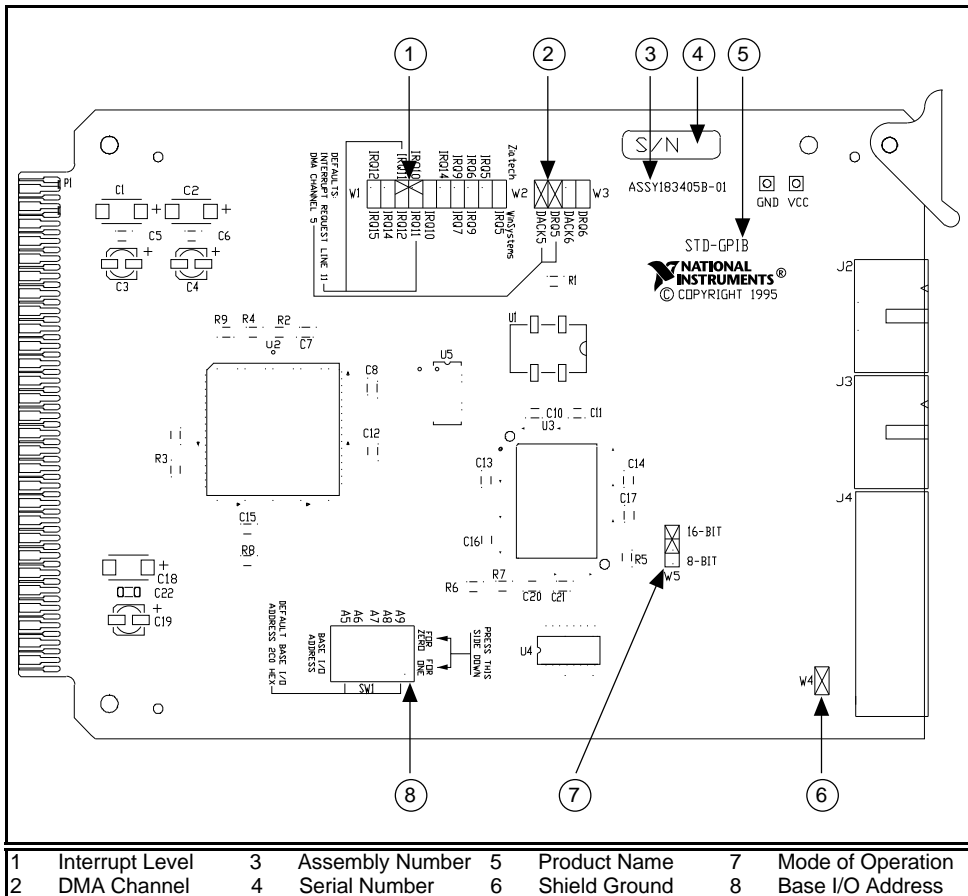

Figure 2-3. STD-GPIB Parts Locator Diagram
Figure 2-3 shows the location of the configuration jumpers and switches on the STD-GPIB.
2. Locate the base I/O address switch at SW1 on your STD-GPIB. Refer to the parts locator diagram, Figure 2-3.
2. Find the jumpers at W1 and W2 that set the interrupt request line. Refer to the parts locator diagram, Figure 2-3.
2. Locate the jumpers at W3 that select the DMA channel. Refer to the parts locator diagram, Figure 2-3.
- Refer to Figure 2-3 to locate the shield ground jumper W4 on the STD-GPIB.